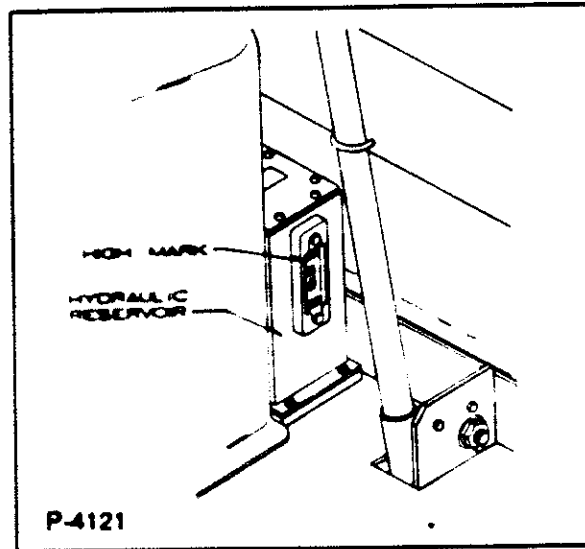

Figure 2
- 1 Make sure the hydraulic oil level in the sight level gauge is at the "HIGH" mark on the sight level gauge. See Figure 2. Add hydraulic fluid to the reservoir if the level of hydraulic fluid is low.